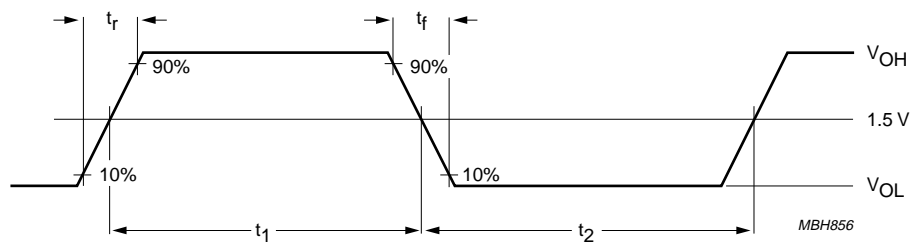

Fig.12 Definition of transition times.
2. The transition time and duty factor definitions are shown in Fig.12;  $\delta = \frac{t_1}{t_1 + t_2}$ .